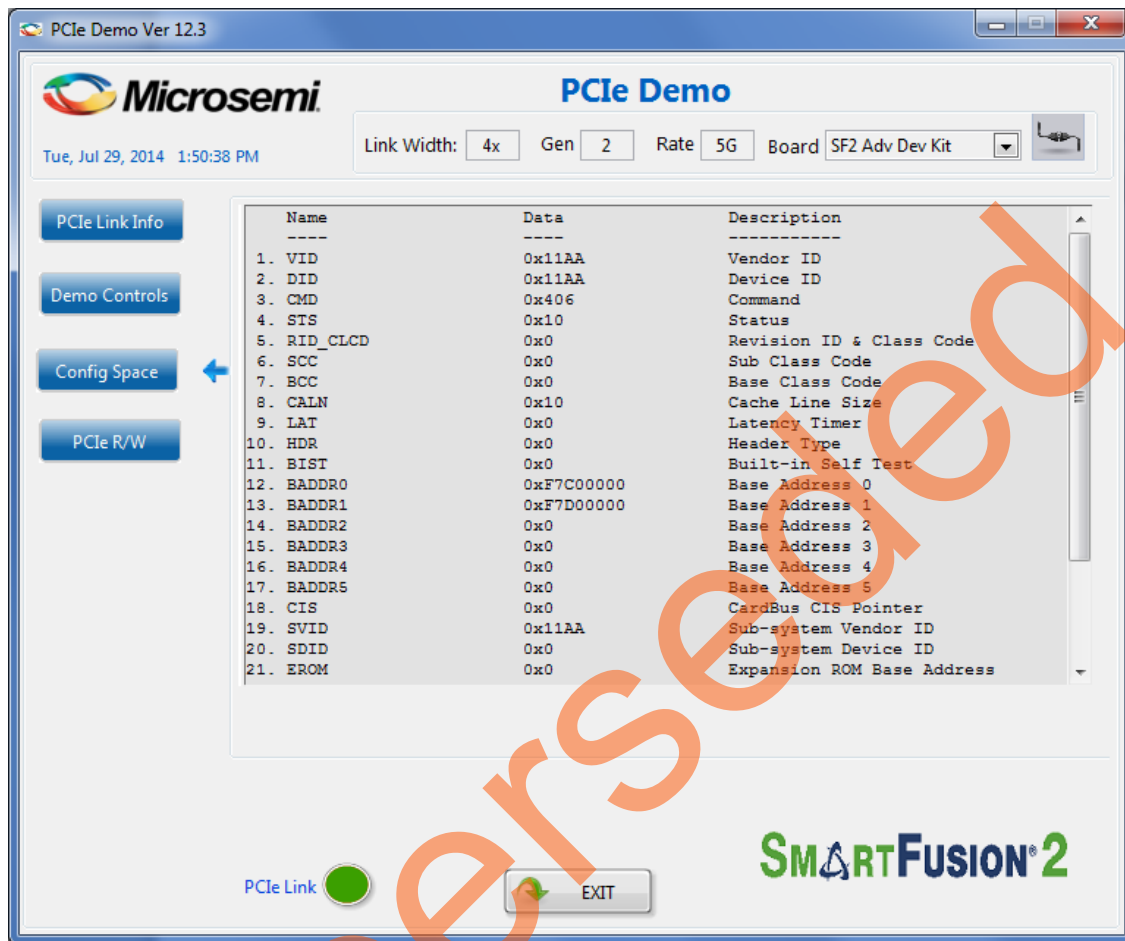

Figure 23 • Configuration Space
13. Click **Config Space** to read details about the PCIe configuration space. Figure 23 shows the PCIe configuration space.